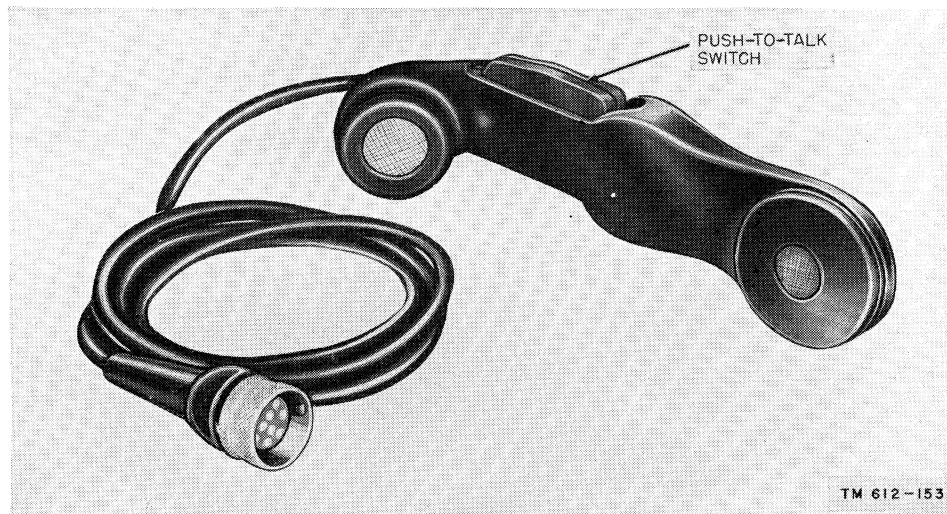

Figure 7. Handset H-33(\*)/PT.
e. *Handset H-33(\*)/PT*. The Handset (fig. 7) consists of a microphone for transmitting, an earphone for receiving signals, and a push-to-talk switch. The handset is connected through a cable and 10-contact plug to an AUDIO connector on the control panel of the radio set.